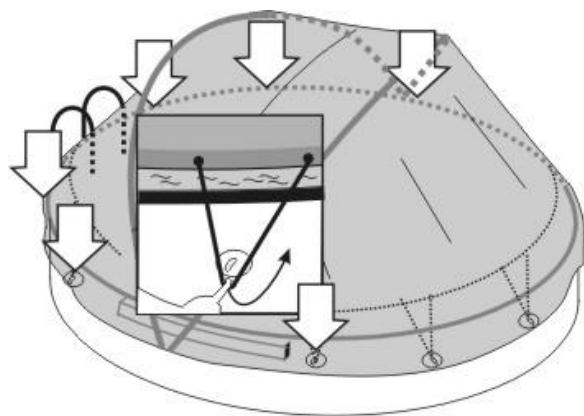

fig. 10.1
Collapsing of the Cabrio Dome (fig. 10.1 to 10.3)
- Unhook the expander ropes (11) around the half of the swimming pool with a swimming pool stairs and also around both "C" profiles (fig. 10.1)